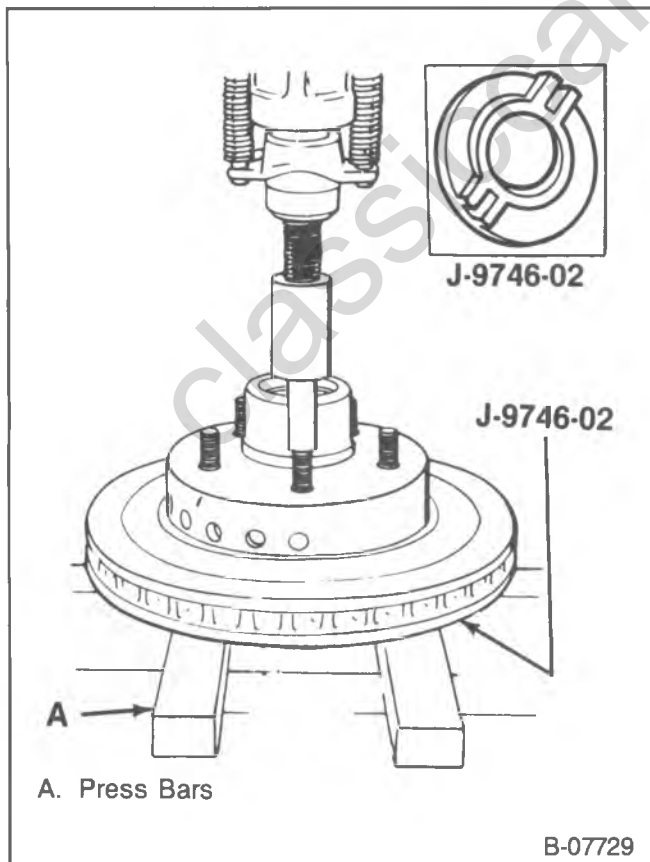

Figure 46—Removing the Hub Bolts
2. Wheel hub bolts (255) with a press.
- Support the hub/rotor using J-9746-02 to prevent damage to the rotor face (figure 46).